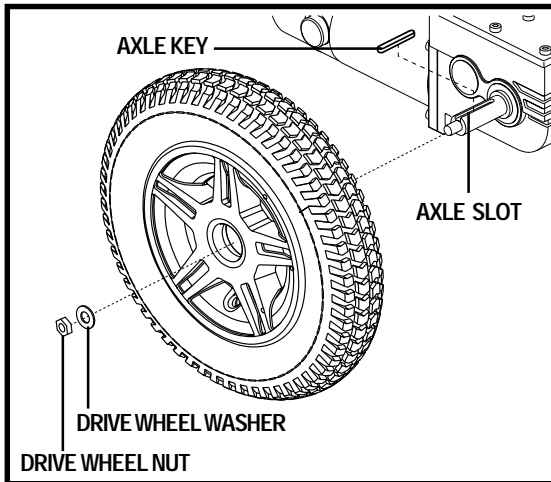

Figure 24. Jazzy 600 Drive Wheel
4. Remove the drive wheel nut and washer from the axle. See figure 24.